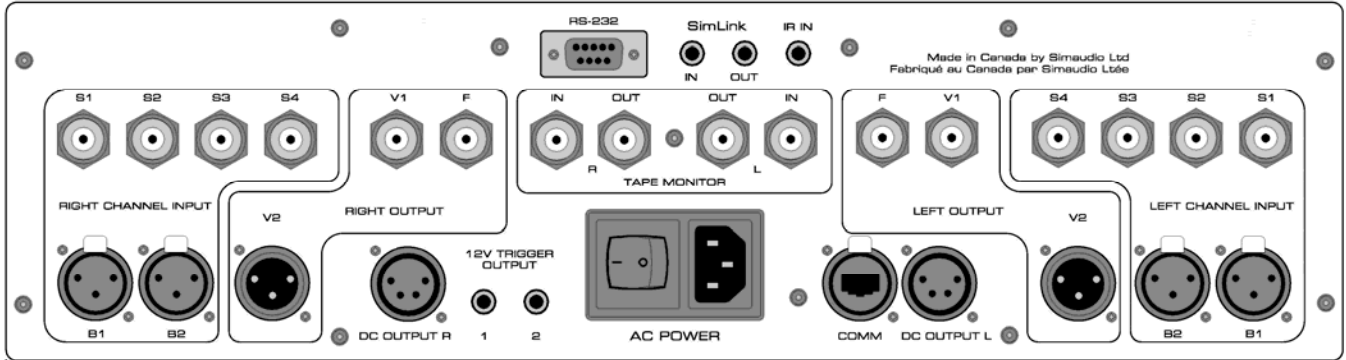

Figure 2: Rear panel of MOON P-7 Preampfier
The rear panel of the **MOON P-7** dual-mono preampfier will look similar to Figure 2 (above). There are three rows of input and output connectors. On the top row is a full-function bi-directional RS-232 port control and status for custom integration or automation and uses a DB9 connector. Immediately to the right of the RS-232 port are two (2) “SimLink” connectors labeled “in” and “out” on 1/8” mini jacks. Please refer to the next section entitled SimLink for more details. As well, there’s a 1/8” mini-jack input for use with aftermarket infrared remote control receivers.